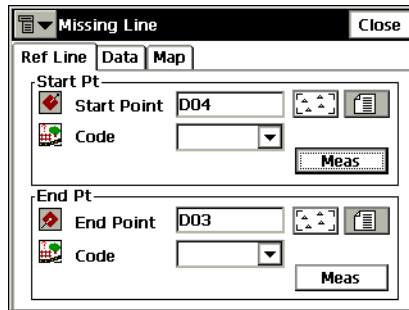

Figure 6-39. Missing Line – Ref Line Tab
2. Enter the *Start* and *End* points names and codes (Figure 6-39). To measure the point, tap the **Meas** button in the corresponding field.